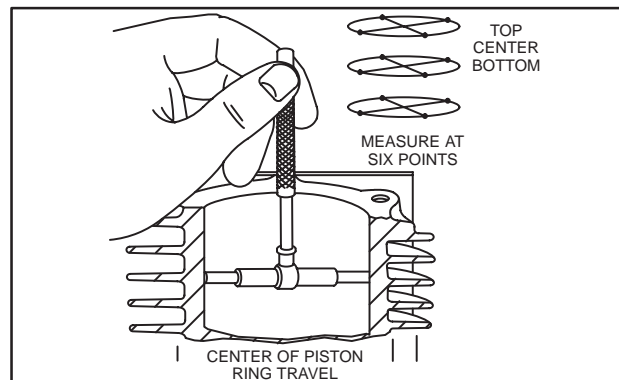

Fig. 1 – Check Cylinder Bore
Use telescoping gauge, Tool #19404, and dial caliper, Tool #19199, or inside micrometer to determine the size of the cylinder bore. Measure at six (6) points at right angles as shown in Fig. 1. See specifications below.